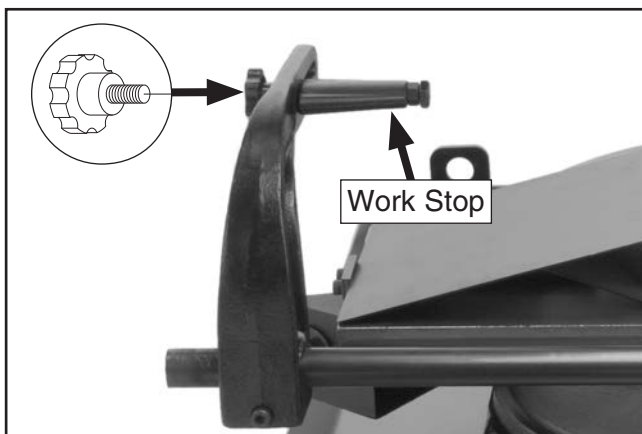

Figure 55. Example of work stop and arm installed on opposite side of rod.
- Install arm on rod on opposite side of rod (see **Figure 55**).
- Remove knob, flip work stop, and install knob to secure (see **Figure 55**).